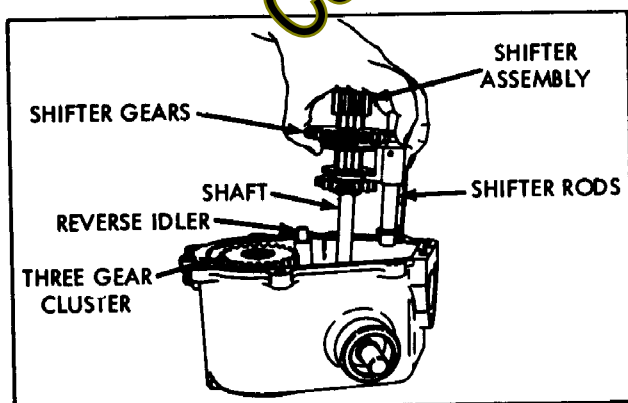

Figure 2-7
- Remove complete shifter assembly by grasping shifter gears, shaft and both shifter rods as a unit. (Fig. 2-7).
- Remove reverse idler shaft and spacer, cluster gear assembly and thrust washer. (Fig. 2-7 and 2-10). For removal and replacement of gears on cluster, see paragraph (11) in this section.